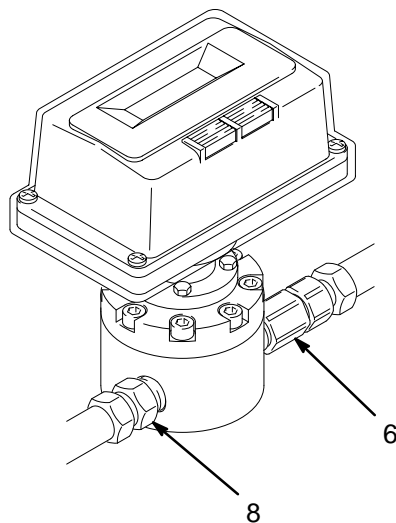

Fig. 5
- Clean the fluid filter (6) periodically to avoid damage to the main fluid chamber of the meter. See Fig. 5.
NOTE: The 3/8 npt hex nipple (8) is permanently bonded to the meter body to ensure a permanent fluid seal. Do not remove this fitting. See Fig. 5.